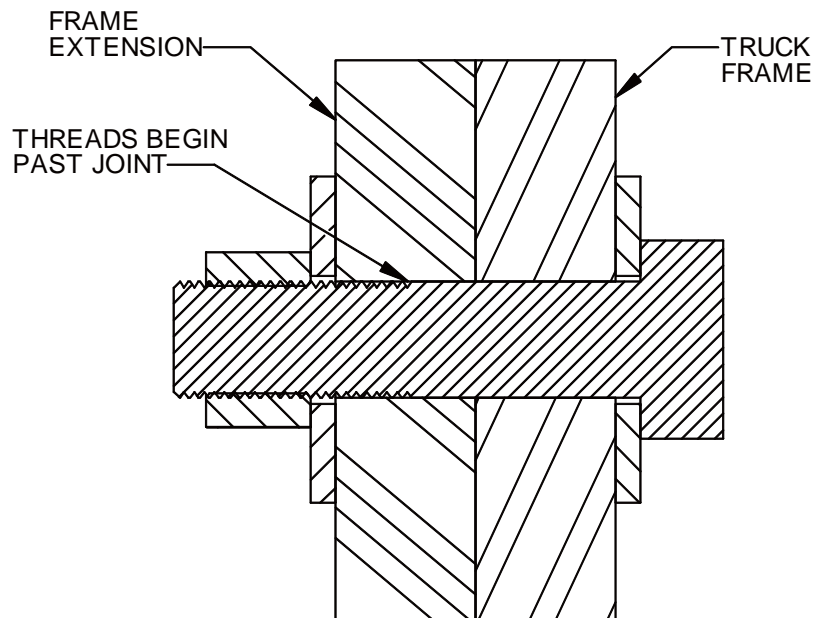
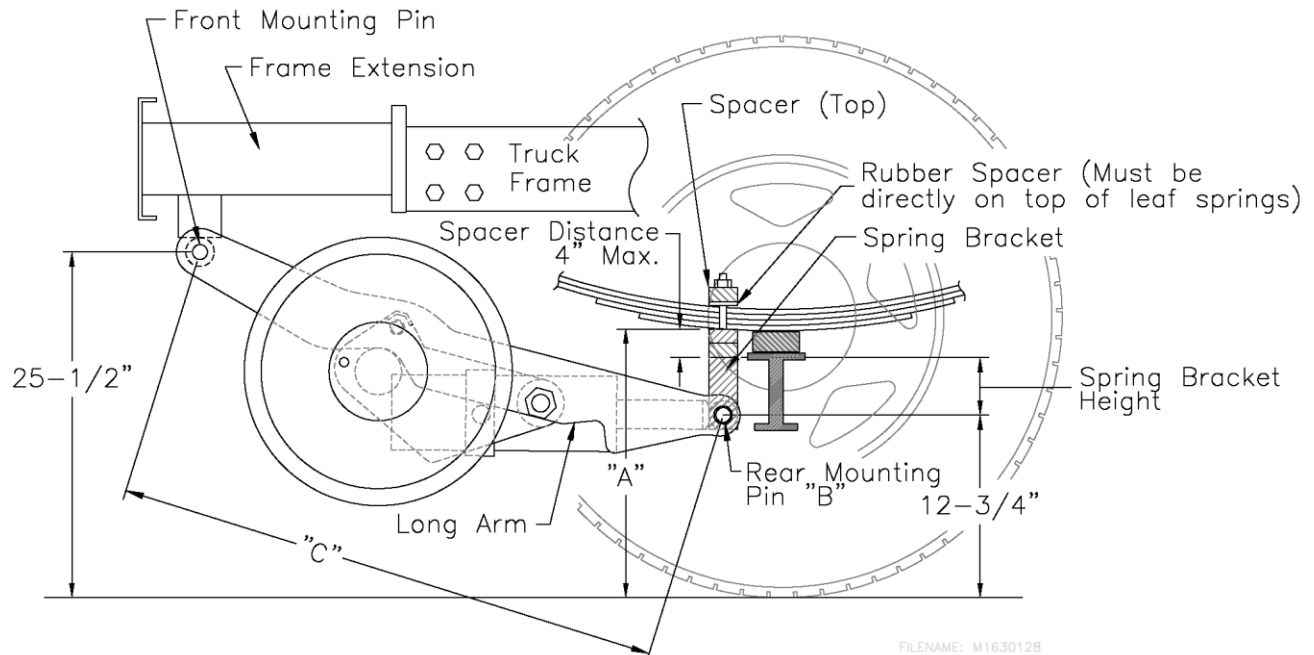

Figure 4.6.3.A Bolted Joint Cross Section
Figure 4.6.5.A Front Mounting Dimensions
- Check to see if Frame Extensions are needed. As seen in figure 4.6.5.A, measure your long arm from front to rear mounting pin hole to determine dimension "C". Starting from approximate installed location of rear mounting pin (point "B" on figure 4.6.5.A), extend a tape measure to the length found in dimension "C". Raise end of tape measure up toward truck frame – if you contact suitable mounting location, no frame extensions should be needed. If the end of the tape measure is beyond the front of the truck frame, then front frame extensions are likely required. Please contact DMF if you have any questions or for ordering information. Also, see section 4.6.3 for Frame Extension installation instructions.
Bolt the Frame Extension to the truck frame (refer to Figure 4.6.5.A). Make sure that the tilt of the cab’s hood will clear the Frame Extensions. Trim the brackets and re-gusset them if necessary. All truck Frame Extensions that are bolt-on brackets must use 5/8”-18 Gr. 8 or stronger bolts, hardened steel washers and Gr. 8 prevailing torque locknuts. All of the fasteners should be tightened per section 5.1 torque specs. Also, when choosing bolt, make sure to use a bolt which has threads that begin past the joint seam. See Figure 4.6.3.A for an illustration. Check that the Frame Extension tubes are level front to rear and side to side with the frame.
If the vehicle has been supplied with an integral extended front frame, the Frame Extension will not be required. The cross tubes can be brought up to the extended frame as shown in Figure 4.6.5.A. Follow all instructions for finding the Front Mounting Pin height with the Frame Extensions. Solid or load bearing Spacers may be required between the cross tubes & the bottom of the frame to obtain the desired 25-1/2" from ground to Front Mounting Pin.
3. Once positioned, place a floor jack under the outboard and inboard long arm, close to the spring hanger on the driver's side. Using the jack, raise the spring hanger up toward the truck's leaf springs. You will raise and lower the long arms until the "Rear Mounting Pin" is 12-3/4" (+/- 1/2") from the floor. See figure 4.6.5.A.
2. Remove the Front Pin-Offs and set the steering tires straight ahead. The front Railgear can now be actuated with the hydraulic system, which will cause the Long Arms to be raised up to the Frame (see Figure 4.6.5.A). The cross tubes only need to be brought up to where they touch the Frame Extension or truck frame (not raised all the way to lift the truck frame and raise the truck tires).
3. In order to install the front of the front Railgear at the correct height, the center of the Front Mounting Pins must be located at 25-1/2" (+/- 1/2") from the ground (with the truck tires on the ground) as shown in Figure 4.6.5.A. If required, shim the cross tubes to obtain this 25-1/2". Any shims used should be load bearing members (no thin wall tubing). If necessary, a different cross tube can be used to obtain the desired height of the Front Mounting Pin, up to a maximum of 3" of shims. If you need more than 3" of shims, a change of cross tubes / mounting block may be required (see section 5.6 for information). Contact DMF for assistance.